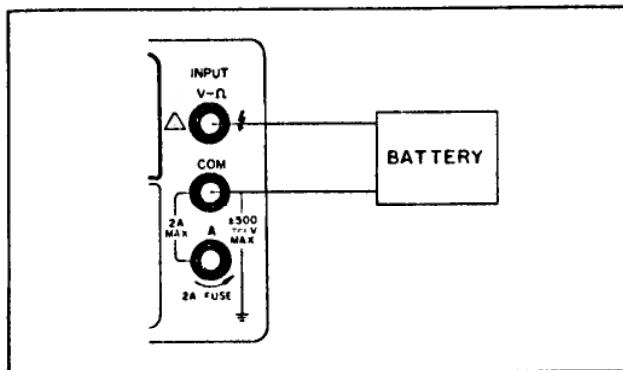

Figure 3-5. DC Voltage Measurements
c. Connect test leads from the Multimeter VΩ (high) and COM (low) terminals to the voltage under test as shown in Figure 3-5.